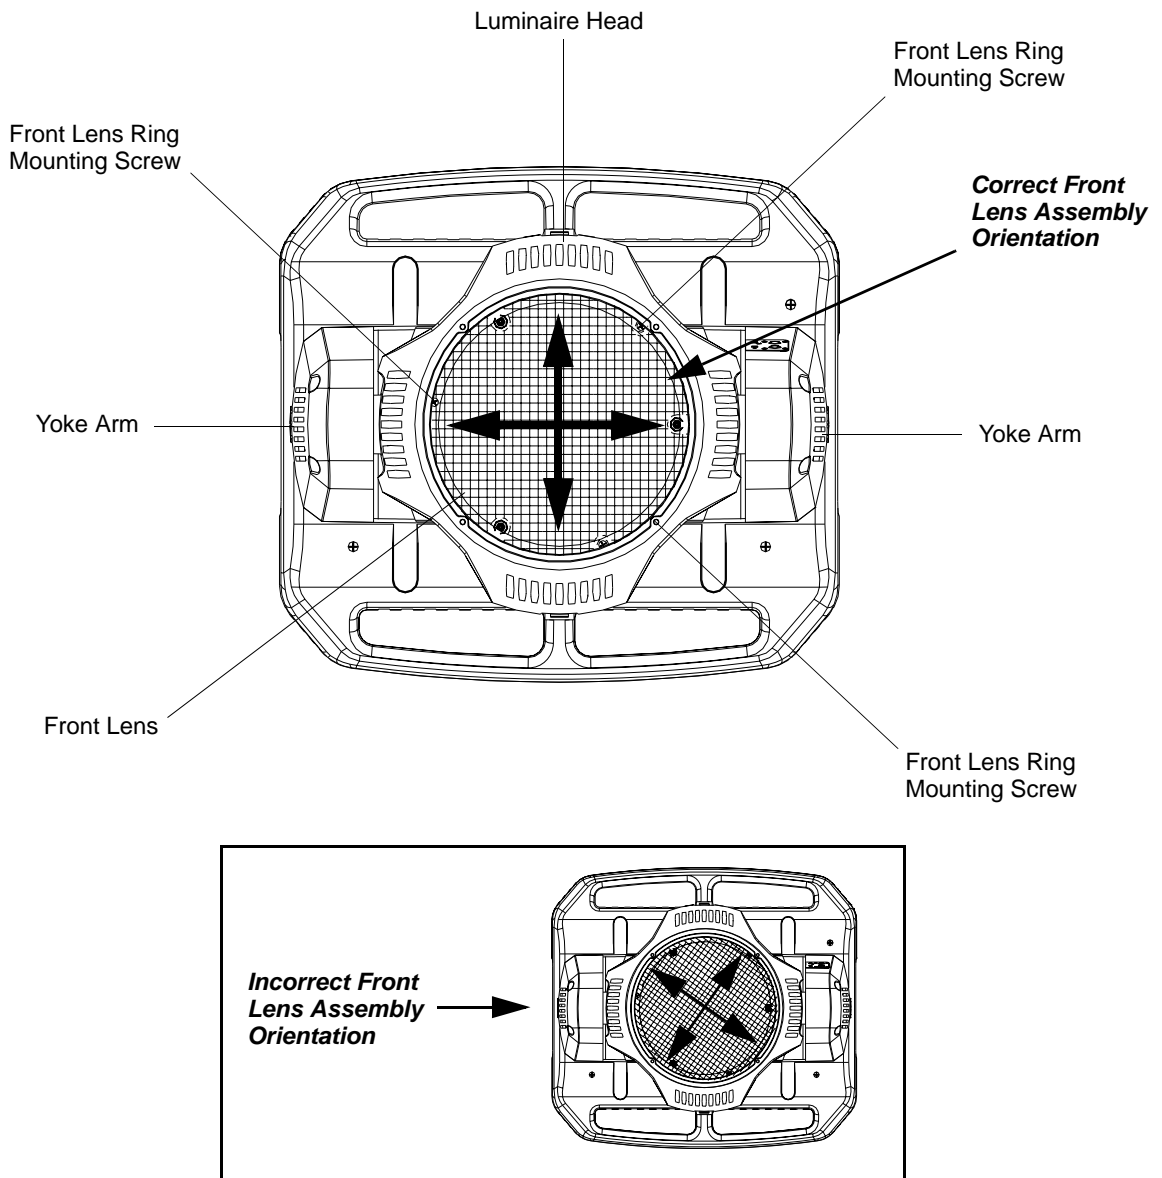

Figure A-5: Front Lens Orientation
Step 8. Once cleaning is complete, reassemble by performing Steps 6 through 2 in reverse order. Be sure to orient front lens as shown in Figure A-5.